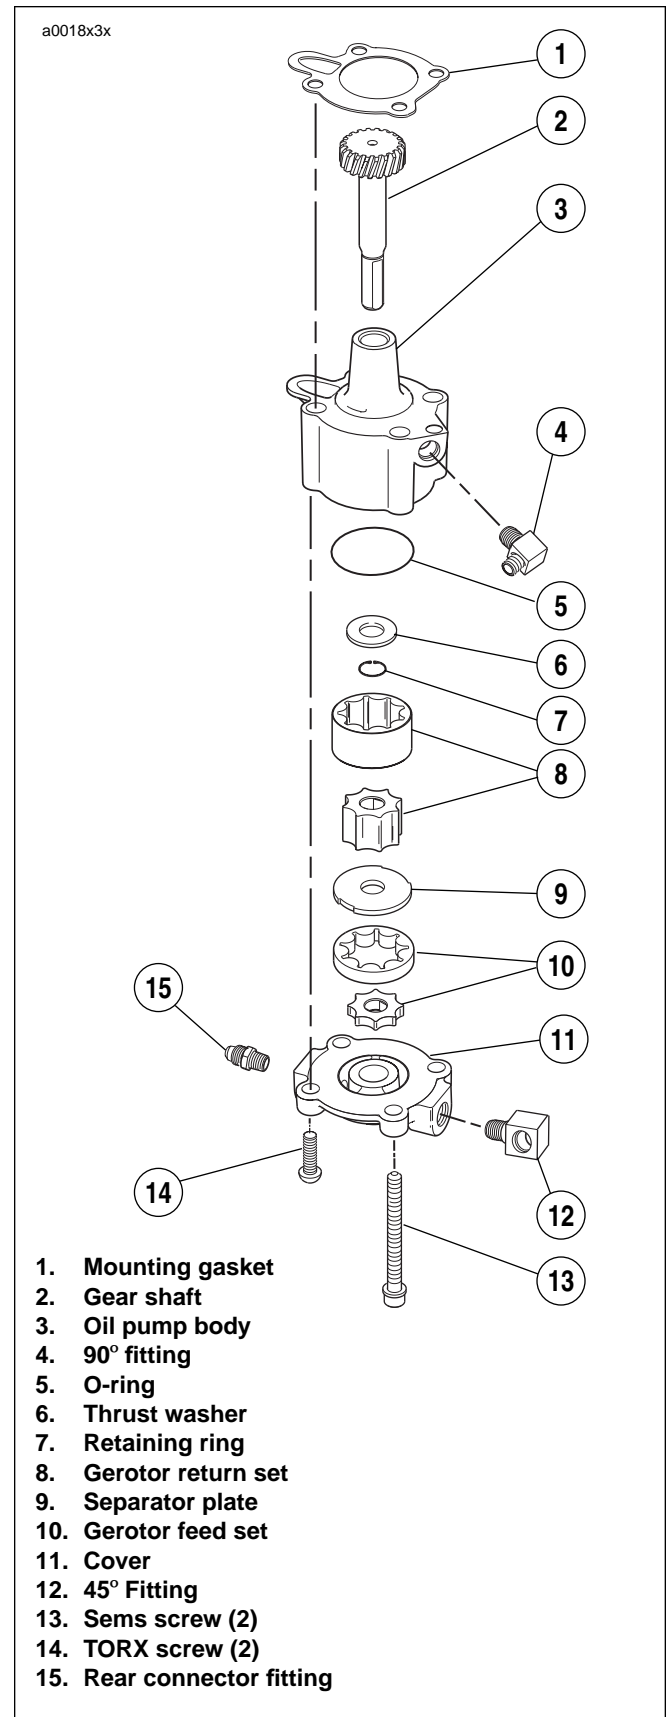

Figure 3-120. Oil Pump
See Figure 3-120. The oil pump consists of two gerotor gear sets, feed and return, housed in one pump body. The feed set distributes oil to the engine, the scavenge set returns oil to the tank/frame reservoir.
3. See Figure 3-120. Check gear shaft teeth for damage or wear. Replace if necessary.
1. See Figure 3-120. Install gear shaft through body. Position thrust washer over end of shaft. Install **new** retaining ring into groove in shaft.
6. See Figure 3-120. Place gerotor feed set over gear shaft.